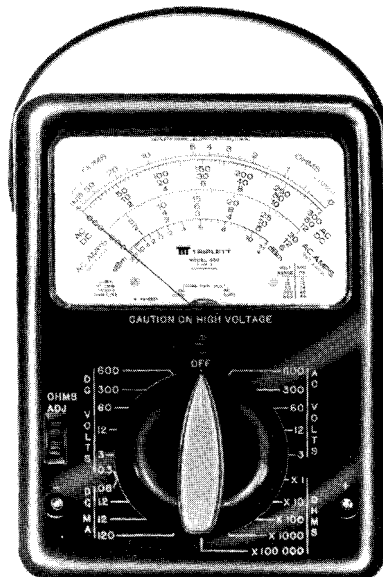

Figure 1-1 Analog voltmeter. (Courtesy of Triplet Corp.)
Analog meters contain a pointer and scale (Figure 1-1). Most of them are part of a multimeter, which has the ability to measure several different electrical quantities. Multimeters are often called V.O.M.s, which stands for volt-ohm-milliammeter. Since they are often part of a multimeter, it is generally necessary to choose the electrical quantity being measured. Most multimeters have the ability to measure both direct current (DC) and alternating current (AC). The meter shown in Figure 1-1, for example, can measure DC voltage (DCV), AC voltage (ACV), ohms (Rx1 and Rx10), and DC milliamps (DCmA). The position of the dial on the front of the meter determines the electrical quantity to be measured.
Analog multimeters can also be set to measure different ranges of voltage. The meter shown in Figure 1-1 has AC voltage ranges of 10, 50, 250, 500, and 1,000 volts. These markings indicate the full-scale value of the meter when the indicator dial is set at one of them. Being able to set the meter for different full-scale ranges greatly increases the usefulness of the meter. If the meter were set for a value of 1,000 volts, it would be very difficult to measure the voltage of a 24 volt system. If the meter were set to the 50 volt position, however, 24 volts could be measured accurately. When a voltage measurement is to be taken and the system voltage is not known, always start on the highest voltage range setting. A meter can never be hurt by connecting it to a voltage that is lower than the range setting. It is a simple thing to reset the meter to a lower range after an initial measurement has been made.